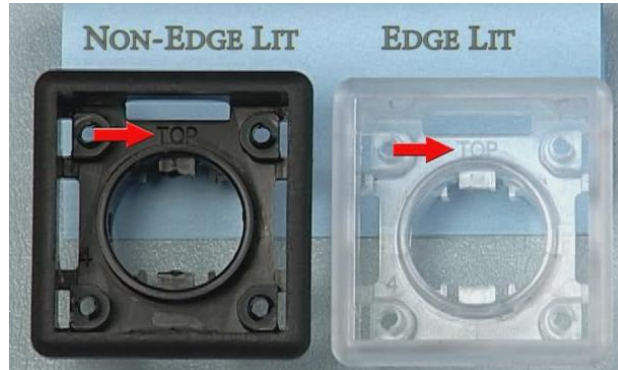

Figure 8
2. Look into the center of the bezel and locate the word “Top” and orient to the top of the Bezel. See Figure 8.